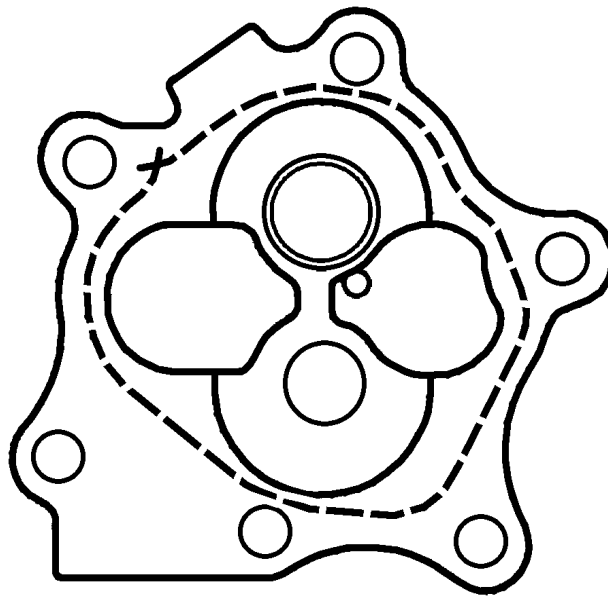

Figure 9. Threading Diagram, Scavenge Pump Bodies 640741, 652019, 652019, & 655713 (used on starter adapters 642087 & corresponding 0.015 oversize adapters)
4. Apply P/N 641543 (a continuous, single piece of grade "D" silk thread) as shown by the dashed lines in Figure 9.